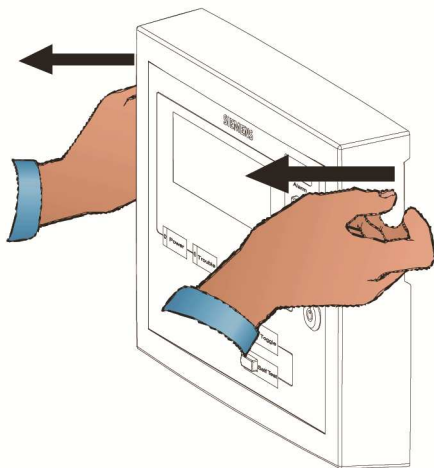

Fig. 6
4. Open the front panel (Fig. 6/7), (make sure the bolt is on the open position) and tighten the screws.